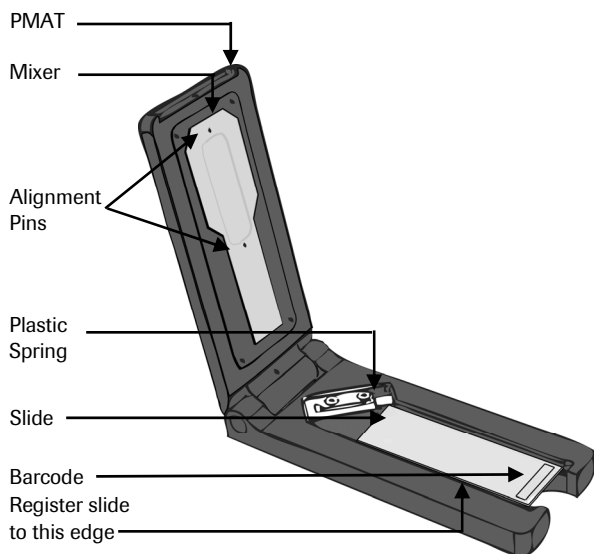

Figure 3: PMAT with Mixer and Slide
3. Snap the mixer onto the two alignment pins on the lid of the PMAT with the tab end of the mixer toward the inside hinge and the mixer's adhesive gasket facing outward (Figure 3).